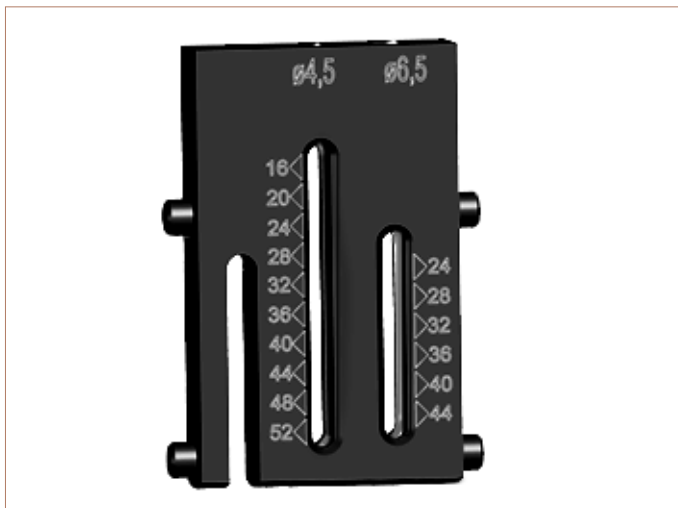

Figure 28
- ▶ Taking note of the measurements taken either with the calibrated Guide Pin or the Depth Gauge, select the appropriate length screw and verify its length with the Screw Identification Tool built into the case/tray [Figure 28].